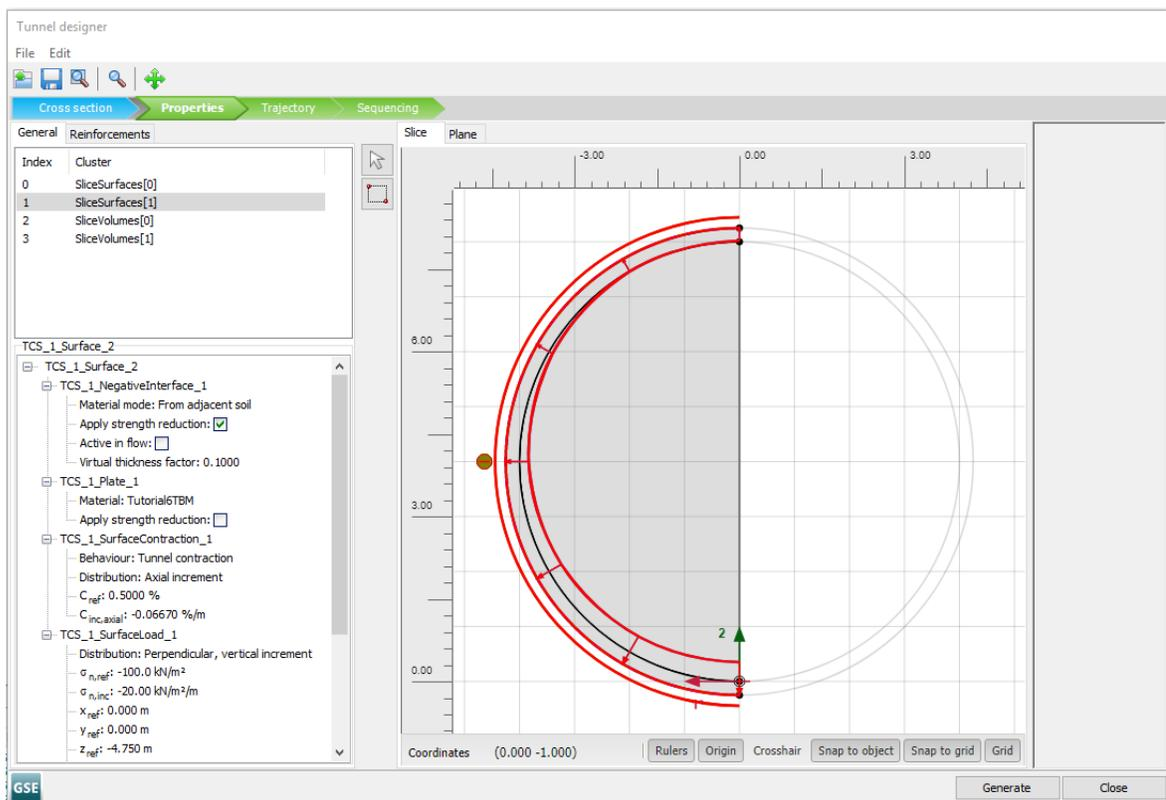

Figure 74: Slice tabsheet in the Tunnel designer
3. Set the $\sigma_{n,ref}$ to -100 and $\sigma_{n,inc}$ to -20 and define $(0 \ 0 \ -4.75)$ as the reference point for the load by assigning the values to x_{ref} , y_{ref} and z_{ref} (Figure 74 (on page 101))